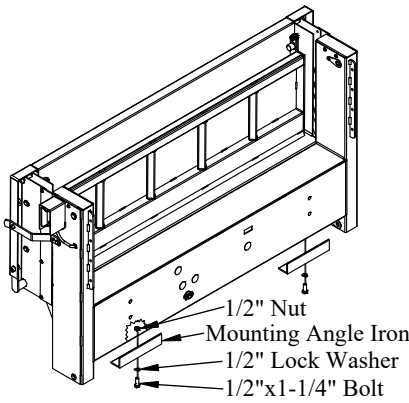

Figure 14: Mounting angle iron location.
- 1. Install** the two (2) mounting angle irons to the bottom of the liftgate (Figure 14).